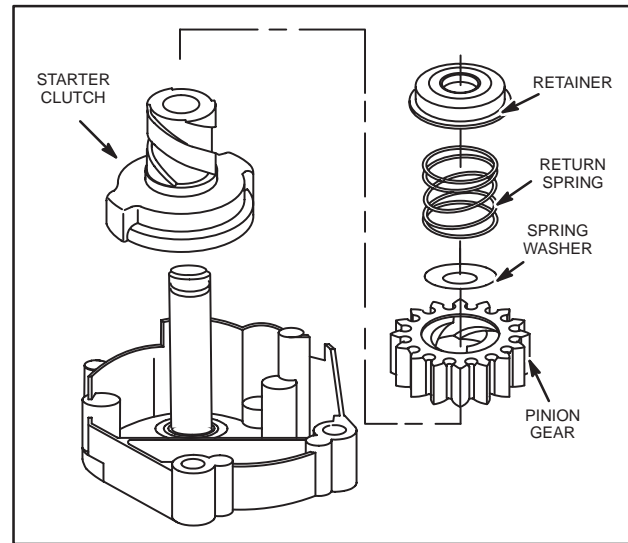
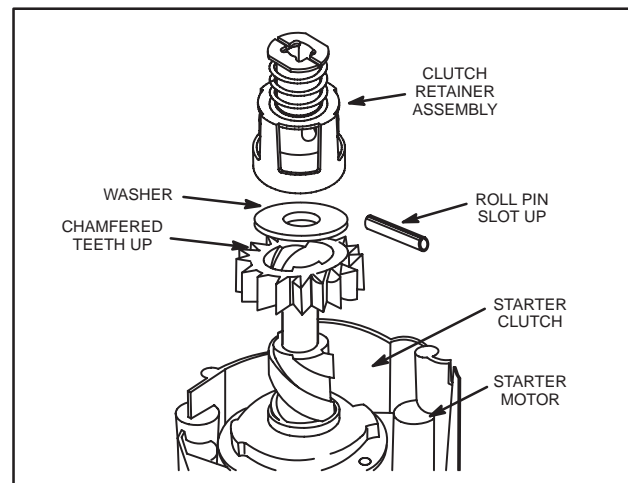
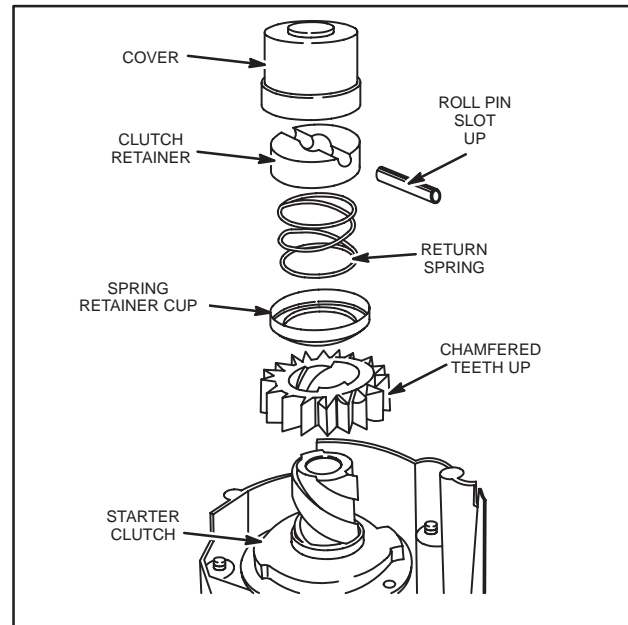

Fig. 19 – Assembling Starter Drive
Fig. 21 – Assembling Starter Drive – Roll Pin Style
Fig. 22 – Assembling Starter Drive – Roll Pin Style With Plastic Cap
NOTE: Do not oil or grease helix or starter gear. See Fig. 19, Fig. 21 and Fig. 22, for proper location of parts.
1. Assemble starter clutch to starter shaft and rotate clutch until it drops into place, Fig. 19.
2. Install pinion gear with chamfered edge of pinion gear teeth away from motor, Fig. 21.
2. Install pinion gear with chamfered edge of pinion gear teeth away from motor, Fig. 22.
4. Press or drive NEW roll pin through retainer slot and hole in armature shaft, Fig. 22. Roll pin should be centered in armature shaft within 1/32" (0.8 mm).